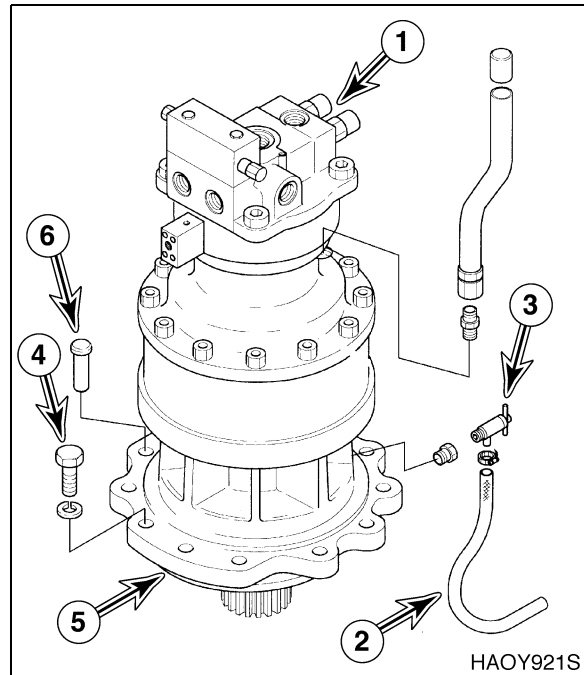

Figure 6
2. Make sure alignment pin (6) is installed in flange of swing reduction gearbox (5).
3. Using a suitable lifting device, sling swing motor (1, Figure 6) and position swing motor and reduction gearbox (5) as an assembly on unit.
4. Install eleven bolts and washers (4, Figure 6) to secure swing reduction gearbox (5) to frame.
5. Connect tube (2) to drain cock (3)
6. Connect hoses as tagged during removal to swing motor (1, Figure 6).